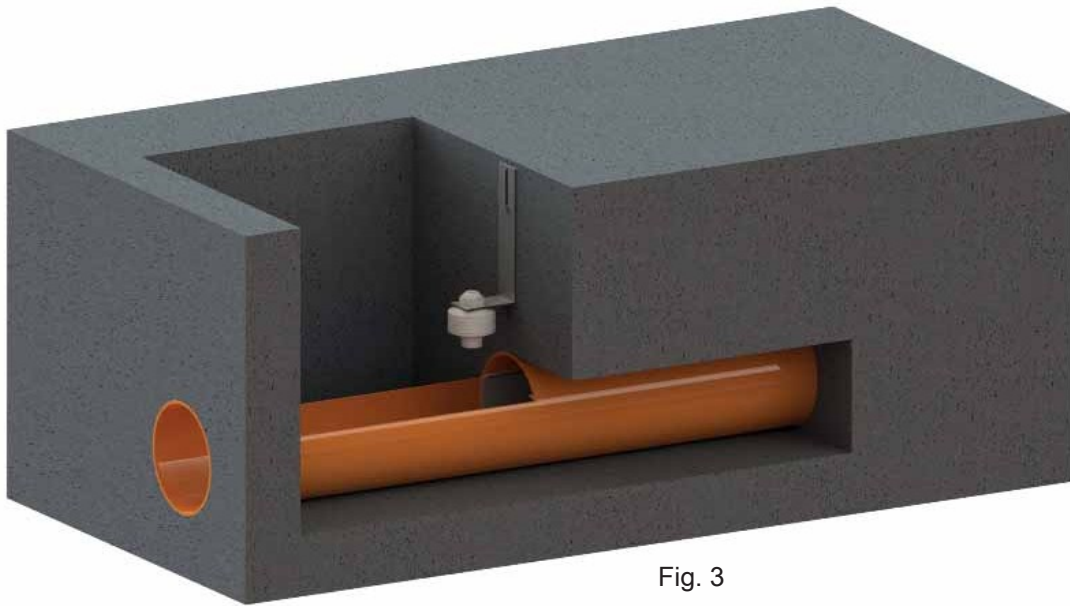

Fig. 3
- 2) opening the upper part of the tube and inserting the **Palmer-Bowlus** channel into the intact part of the tube (see example in Figs. 3 and 4)